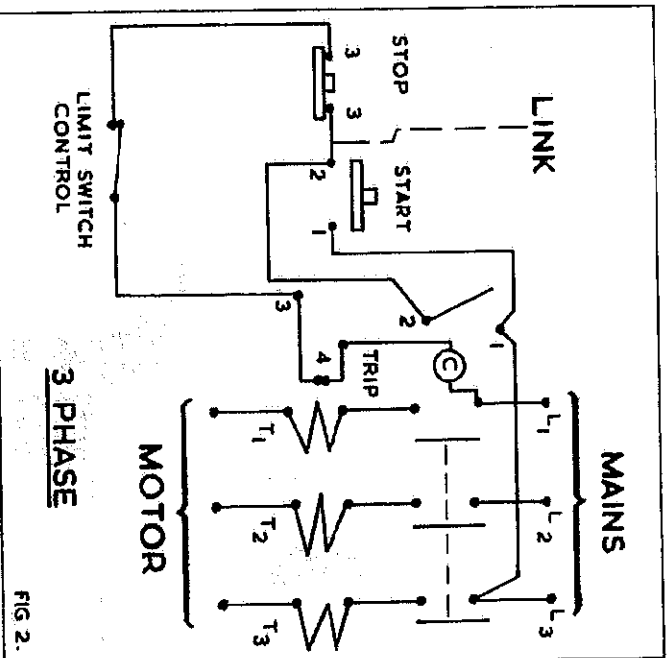

FIG. 2.
4. Connect the line leads to the appropriate terminals. See Fig. 2 for 3 phase supply